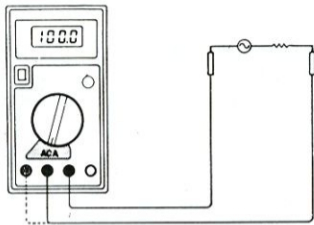

Fig. 5-4 AC Current measurement
2. Set the FUNCTION switch to the AC A range to be used and connect the test lead in series with the load under measurement. See Fig 5-4.